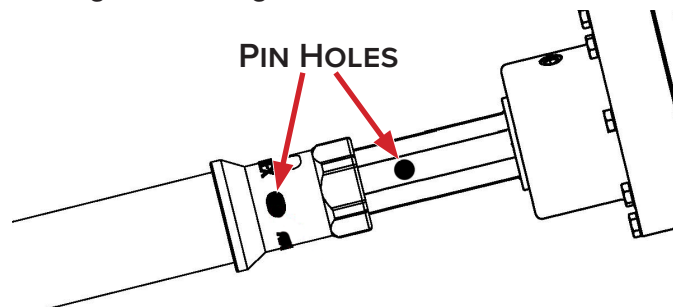

Figure 2
3. Raise the Auger, and line the pin holes in the bit or extension and the output shaft. Slide the bit/extension onto the shaft until the holes are aligned. See Figure 2.